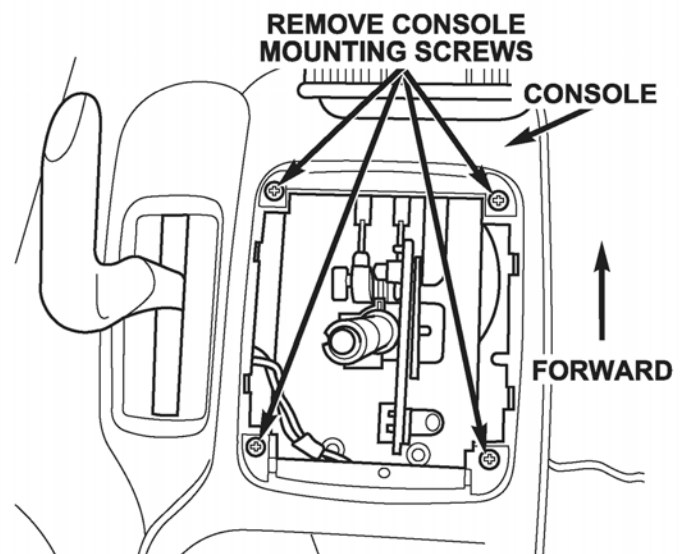

Figure 7
18. Remove the four (4) console-to-console bracket Phillips head mounting screws (Figure 7).
19. Lift the console slightly and place one (1) washer between the console mounting bracket and the console at each of the four (4) screw locations to shim the console upward (Figure 7).
20. Reinstall the four (4) console mounting screws (Figure 7).